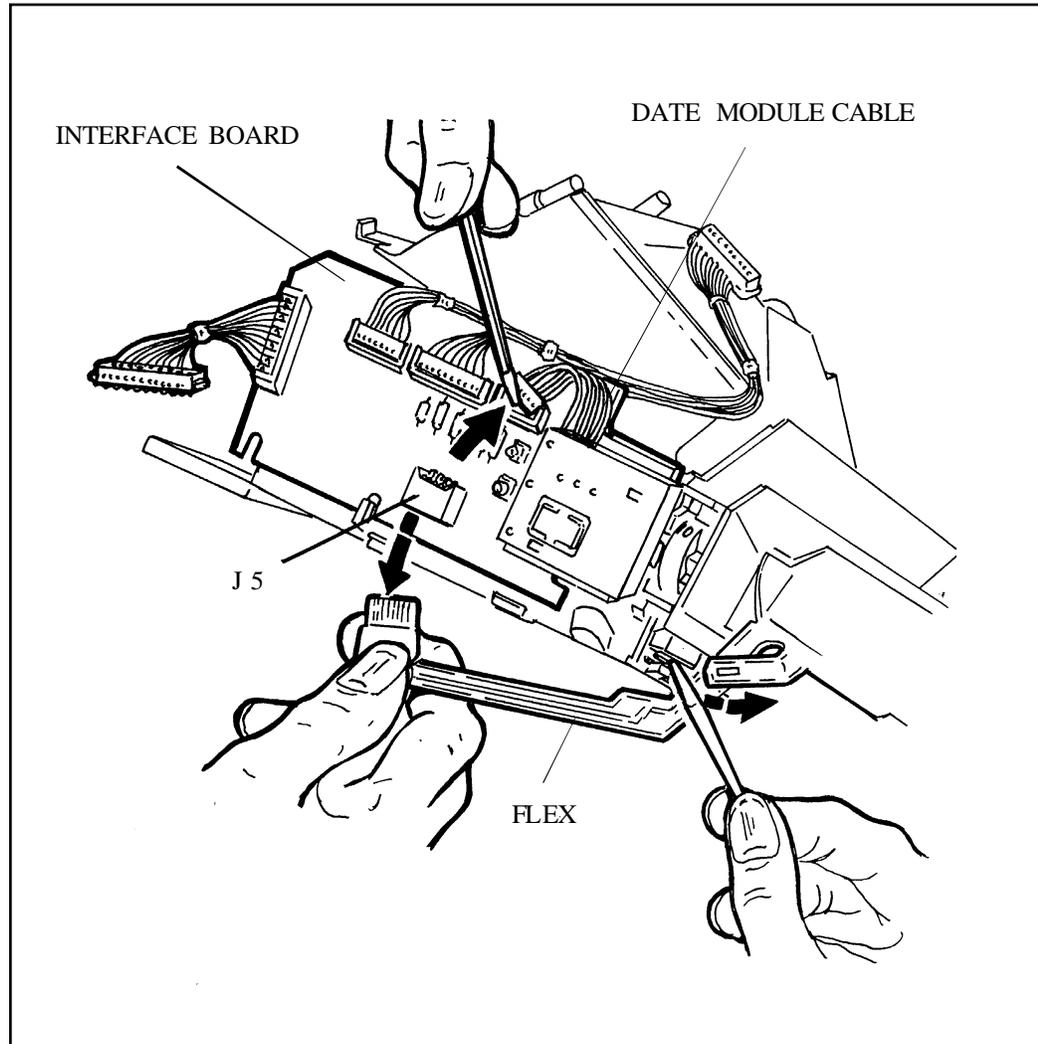

Figure 3-25. Removing Flex from Interface Board
- a. Pull the end of the Flex out of J5 on the Interface Board (Figure 3-25).